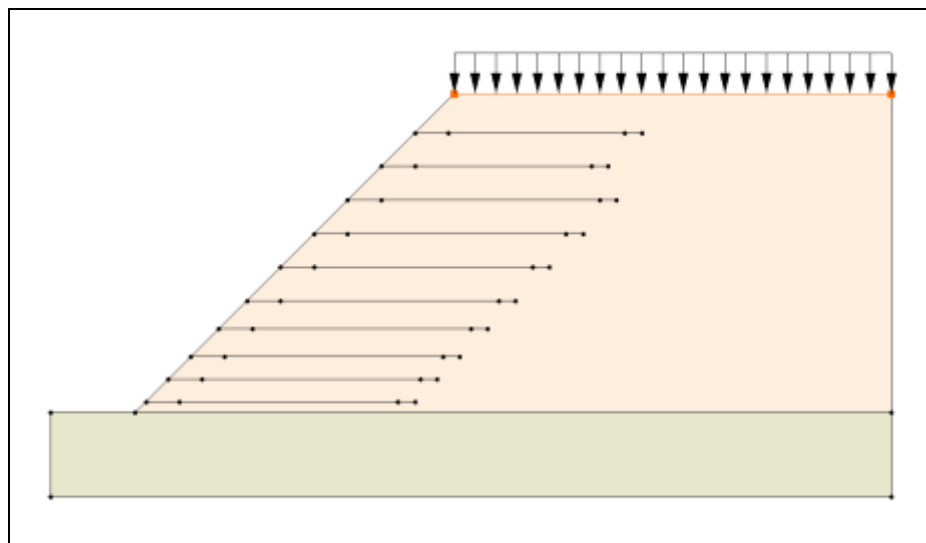

Figure 4 After adding reinforcement lines
3. Using Figure 4 (below) as a guide, click on the points to connect them with arcs to create the slope.
At this point, the user should see something like Figure 4 below.